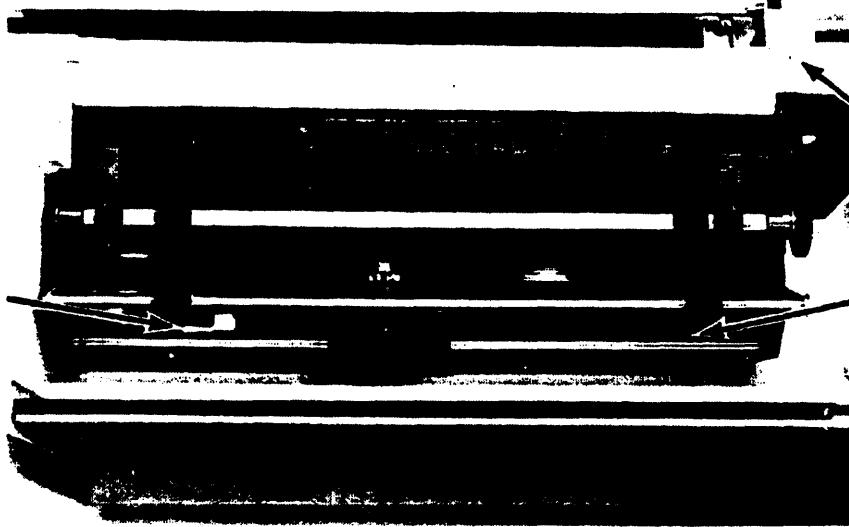

Figure 6-12. Printer Mounting Screws
14. Remove the two screws in the bottom of the printer assembly and the screw in the rear right-hand corner of the assembly near the switch-panel tab slot. See figure 6-12. (You may have to move the printhead out of the way to remove one of the screws.)